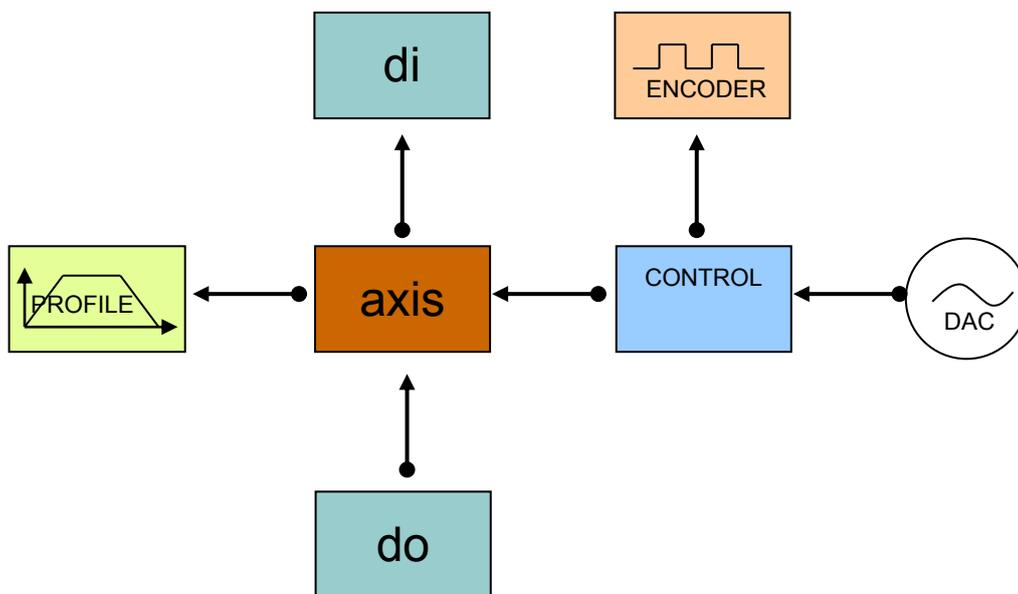

Fig 3-2 Servo Control
Control mode of servo motor can be configured as Fig 3-2.
- 3 Related axis: If user uses servo motor in close-loop control, connected axis should be clicked. By default: the connected axis is unclicked, i.e. open-loop control (pulse control) mode. If “related axis” be clicked, motion controller will connect corresponding encoder, dac, axis and control together. As illustrated in Fig.3-2, dac cannot be set independently. And `GT_SetDac()` is invalid. `GT_CtrlMode()` command can switch between close-loop mode and open-loop mode.